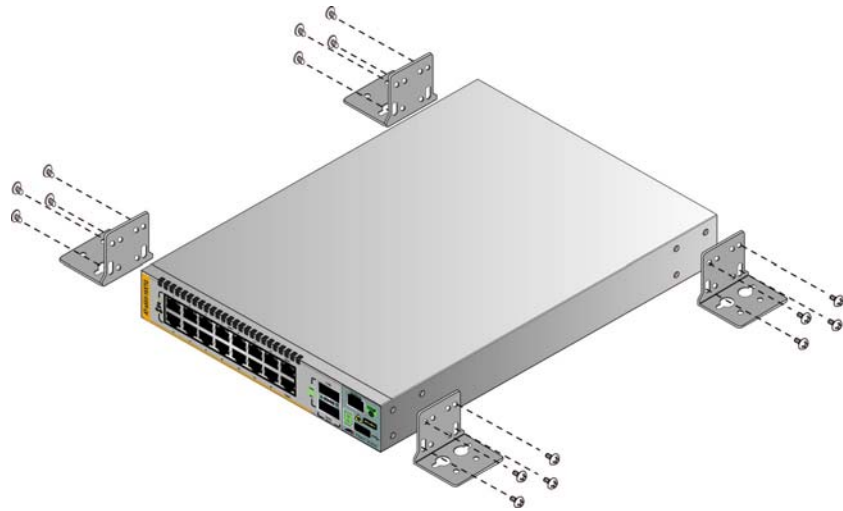

Figure 43. Installing the Wall Brackets
2. For the AT-x550-18XTQ or AT-x550-18XSQ Switch, install the four AT-BRKT-J24 wall brackets to the sides of the unit, with the sixteen M4x6mm screws included with the switch. Refer to Figure 43.
- ☐ Position it so that the front panel is either on the left or right. Refer to Figure 43. Do not install it with the front panel facing up or down.
2. For the AT-x550-18XTQ or AT-x550-18XSQ Switch, install the four AT-BRKT-J24 wall brackets to the sides of the unit, with the sixteen M4x6mm screws included with the switch. Refer to Figure 43 on page 84.